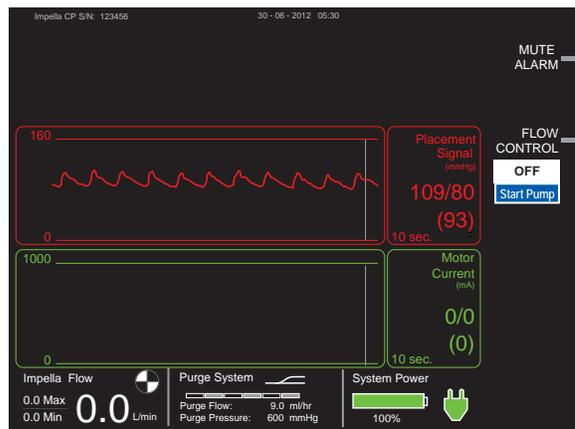

Figure 5.36 Starting the Impella® 2.5 and Impella CP® Catheter
3. Press the **FLOW CONTROL** soft button to open the menu. (see Figure 5.36). **Start Pump** is highlighted in blue. Press the selector knob to select **Start Pump** and the controller starts in AUTO, which automatically increases the flow rate over 30 seconds.